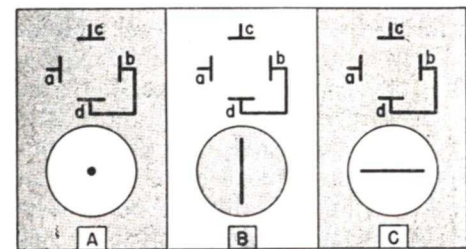

FIG. 29. By applying an a.c. voltage to one set of plates at a time, we change from a spot of light to either a vertical or horizontal line of light.
► Two sets of these plates are used—one set to move the beam up and down and the other set to move it from left to right, as shown in Fig. 29.
Using the Sweep Voltage. When we apply only the sweep voltage to the horizontal deflecting plates, the line in Fig. 29*C* is produced. The spot moves at a steady rate from left to right, then snaps back to the left to repeat the trace.
The spot will normally be in the center of the screen, about at point *e*. As the sweep voltage now has an a.c. form because of the blocking condenser through which it was fed, points 1 to 9 of *A* represent negative potentials on the right-hand horizontal deflecting plate which corresponds to plate *b* of Fig. 29. Points 9 to 17 represent positive voltages on this plate (with respect to plate *a*).